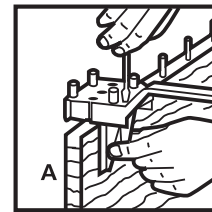

Figure 38
- With the 4 centring pegs pointed down, slide the Quick Dowel Jig over one of the dowel pins in the edge of board A. Slide the angle piece forward until it rests against the board, then tighten the screws to secure the angle piece to the jig. See Figure 38.